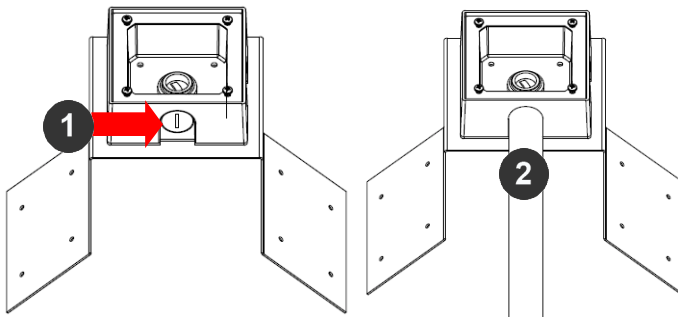

Figure 1: Attach conduit to SV-JBA junction box adapter
3. Attach the AV-JBA (Junction Box Adapter) to the Corner Mount Adapter (Figure 1).
4. Remove the conduit plug on the junction box adapter and connect 3/4" NPT conduit to the junction box adapter (Figure 1).